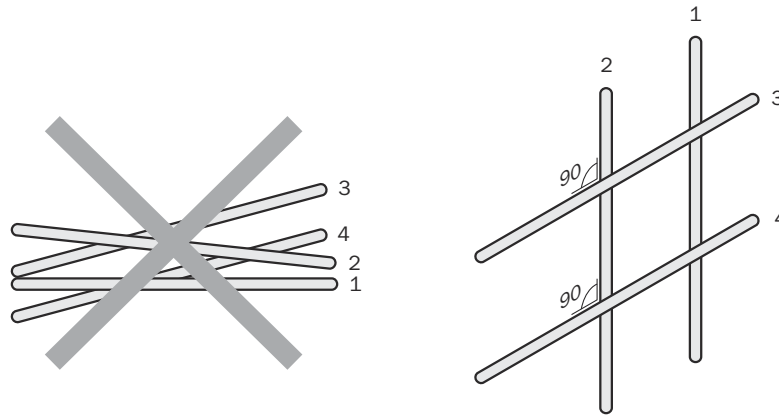

Figure 17: Cross cables at right angles
- ▶ Cables in groups 1, 2 and 3, 4 must be crossed at right angles, see figure 17.